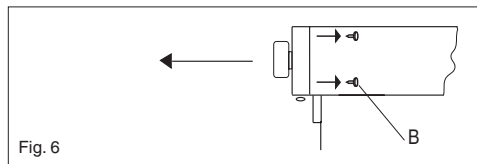

Fig. 6
- To disassemble the control panel, unscrew the 4 internal screws (B) fixing the control panel to the oven face (fig. 6).